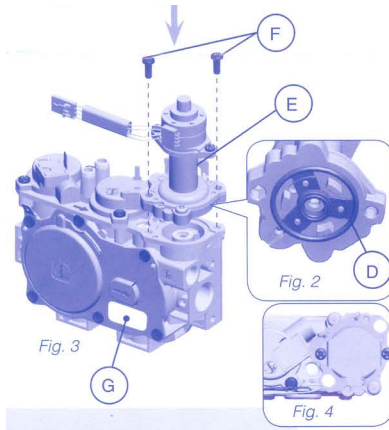

Figure 11 Stepper Motor Installations
2. Ensure the prefitted rubber gasket is properly positioned (Figure 11 - D). Otherwise, fit the gasket as shown.